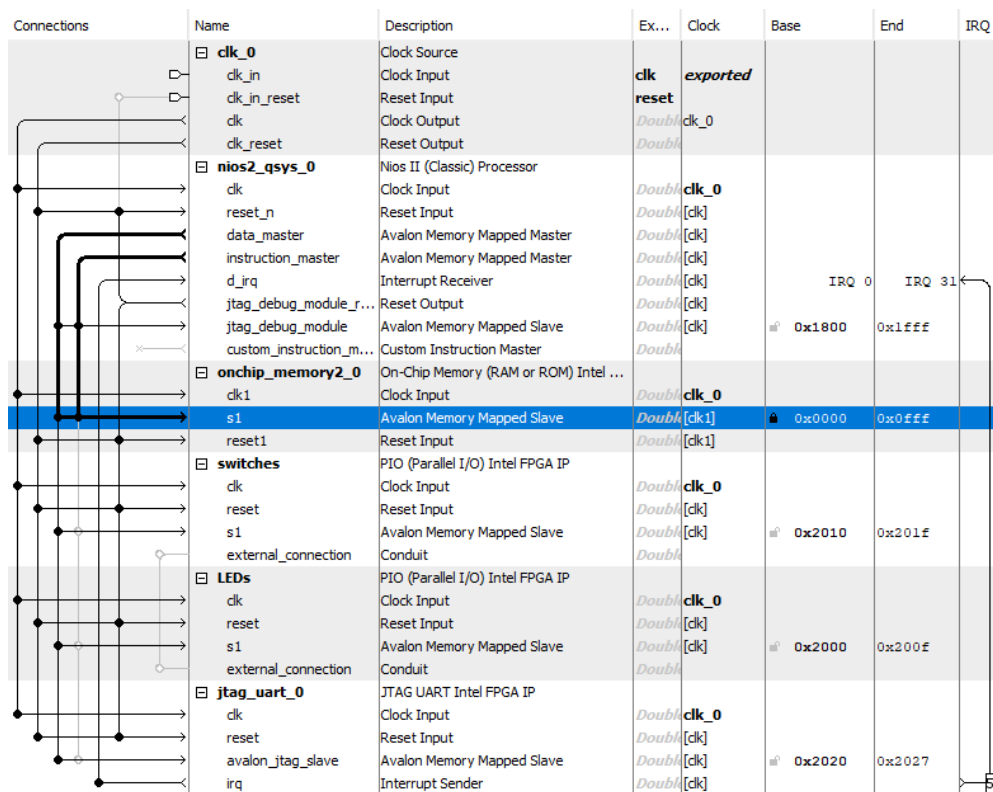
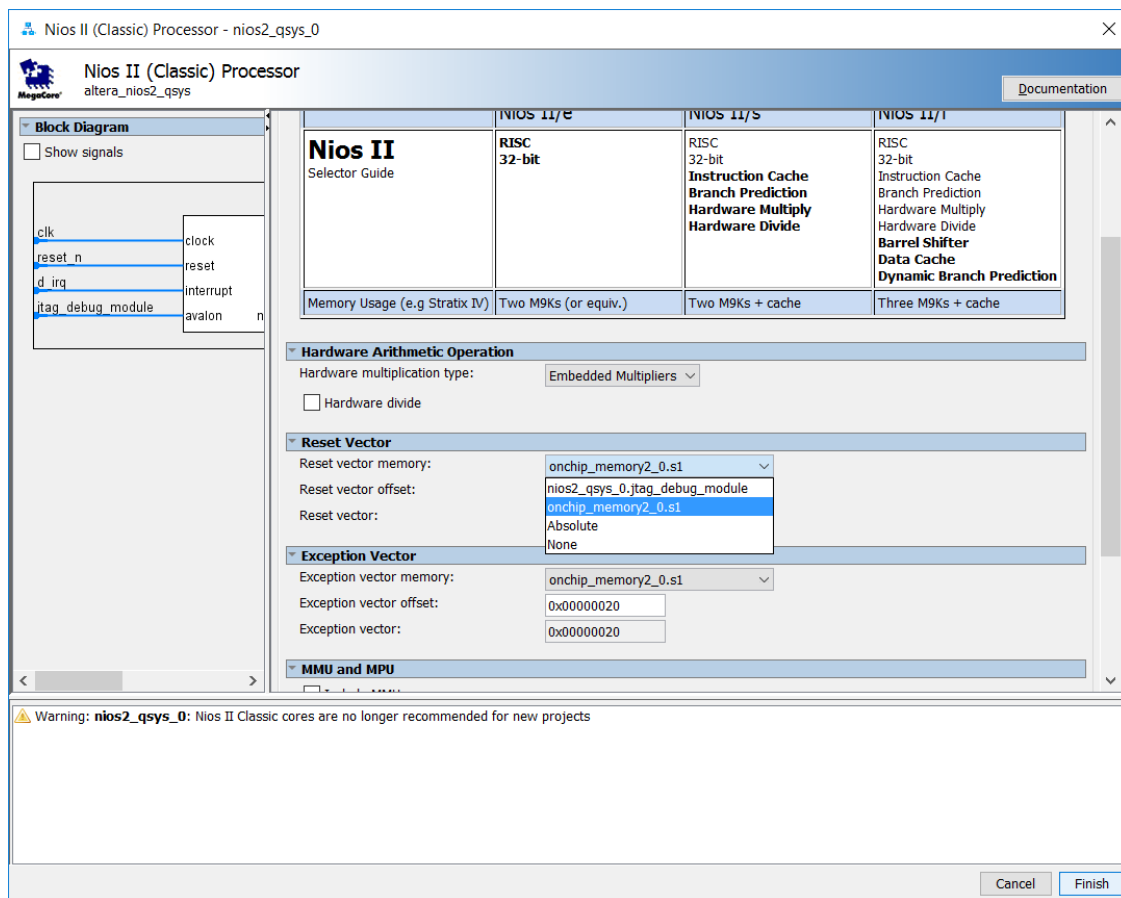

Figure 16. The system with assigned addresses.
Figure 17. Define the reset and exception vectors.
- Observe that the base and end addresses of the various components in the designed system have not been properly assigned. These addresses can be assigned by the user, but they can also be assigned automatically by the Platform Designer tool. We will choose the latter possibility. However, we want to make sure that the on-chip memory has the base address of zero. Double-click on the Base address for the on-chip memory in the Platform Designer window and enter the address 0x00000000. Then, lock this address by clicking on the adjacent lock symbol. Now, let the Platform Designer assign the rest of the addresses by selecting **System > Assign Base Addresses** (at the top of the window), which produces an assignment similar to that shown in Figure 16.
- Right-click on the *nios2_qsys_0* component (it may be called *nios2_processor* in some versions of the Platform Designer) in the window displayed in Figure 16, and then select **Edit** to reach the window in Figure 17
- Select *onchip_memory2_0.s1* to be the memory device for both reset and exception vectors, as shown in Figure 17